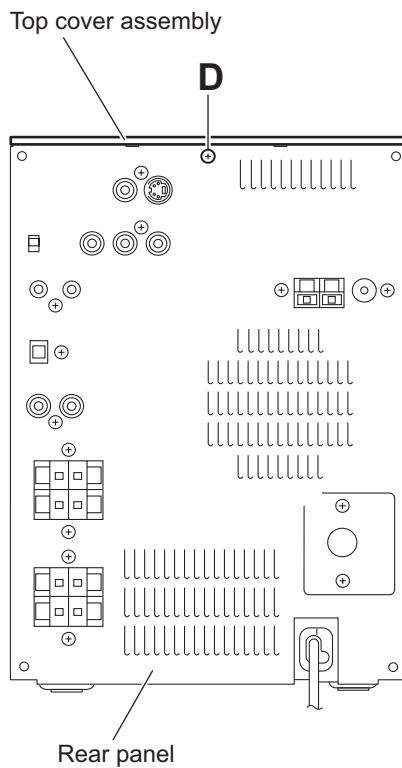

Fig.9
3.1.3 Removing the top cover assembly (See Figs.9 to 11)
- (1) From the back side of the main body, remove the screw **D** attaching the top cover assembly to the rear panel. (See Fig.9.)